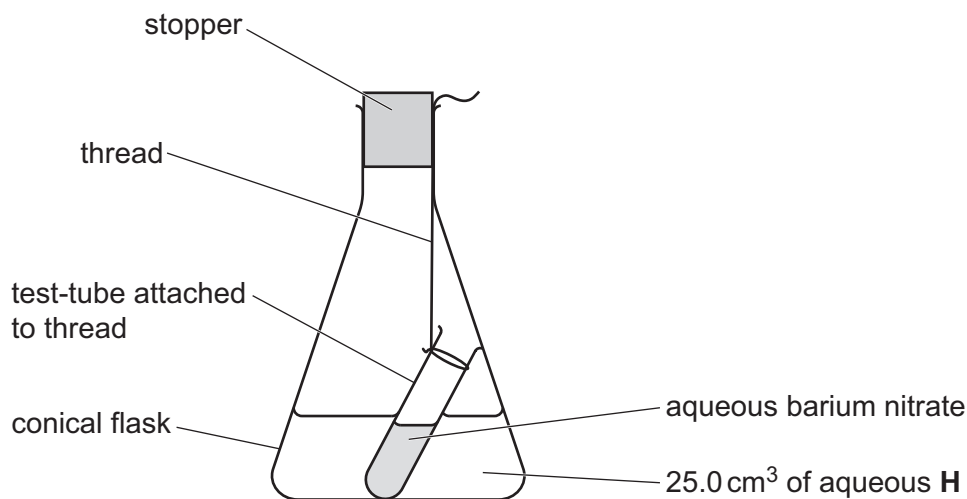

Fig. 2.1
- step 1** assembles the apparatus and chemicals shown in Fig. 2.1